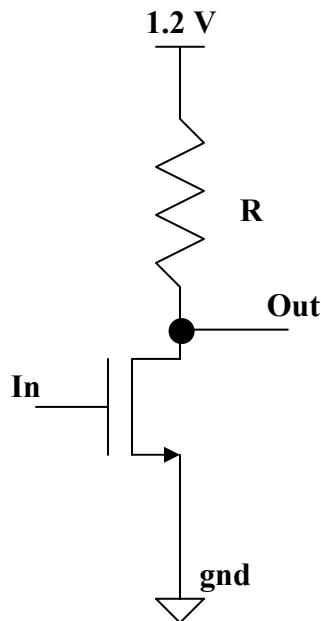

Figure 4: Inverter based on NMOS and resistor
As mentioned in class, inverters do not always have to be made out of a PMOS on top of an NMOS. One example of an inverter using a resistor instead of a PMOS is shown in Figure 4.
- 2) Calculate V_{OH} , V_{OL} and V_M of the circuit in Figure 4. (Assume $R = 10\text{k}\Omega$ and $W/L = 5 \cdot 0.120\ \mu\text{m} / 0.1\ \mu\text{m}$)
- 3) First you start out by drawing the schematic of a NMOS-only inverter. (You are basically trying to replace the resistor of the inverter of Figure 4 by another NMOS transistor)